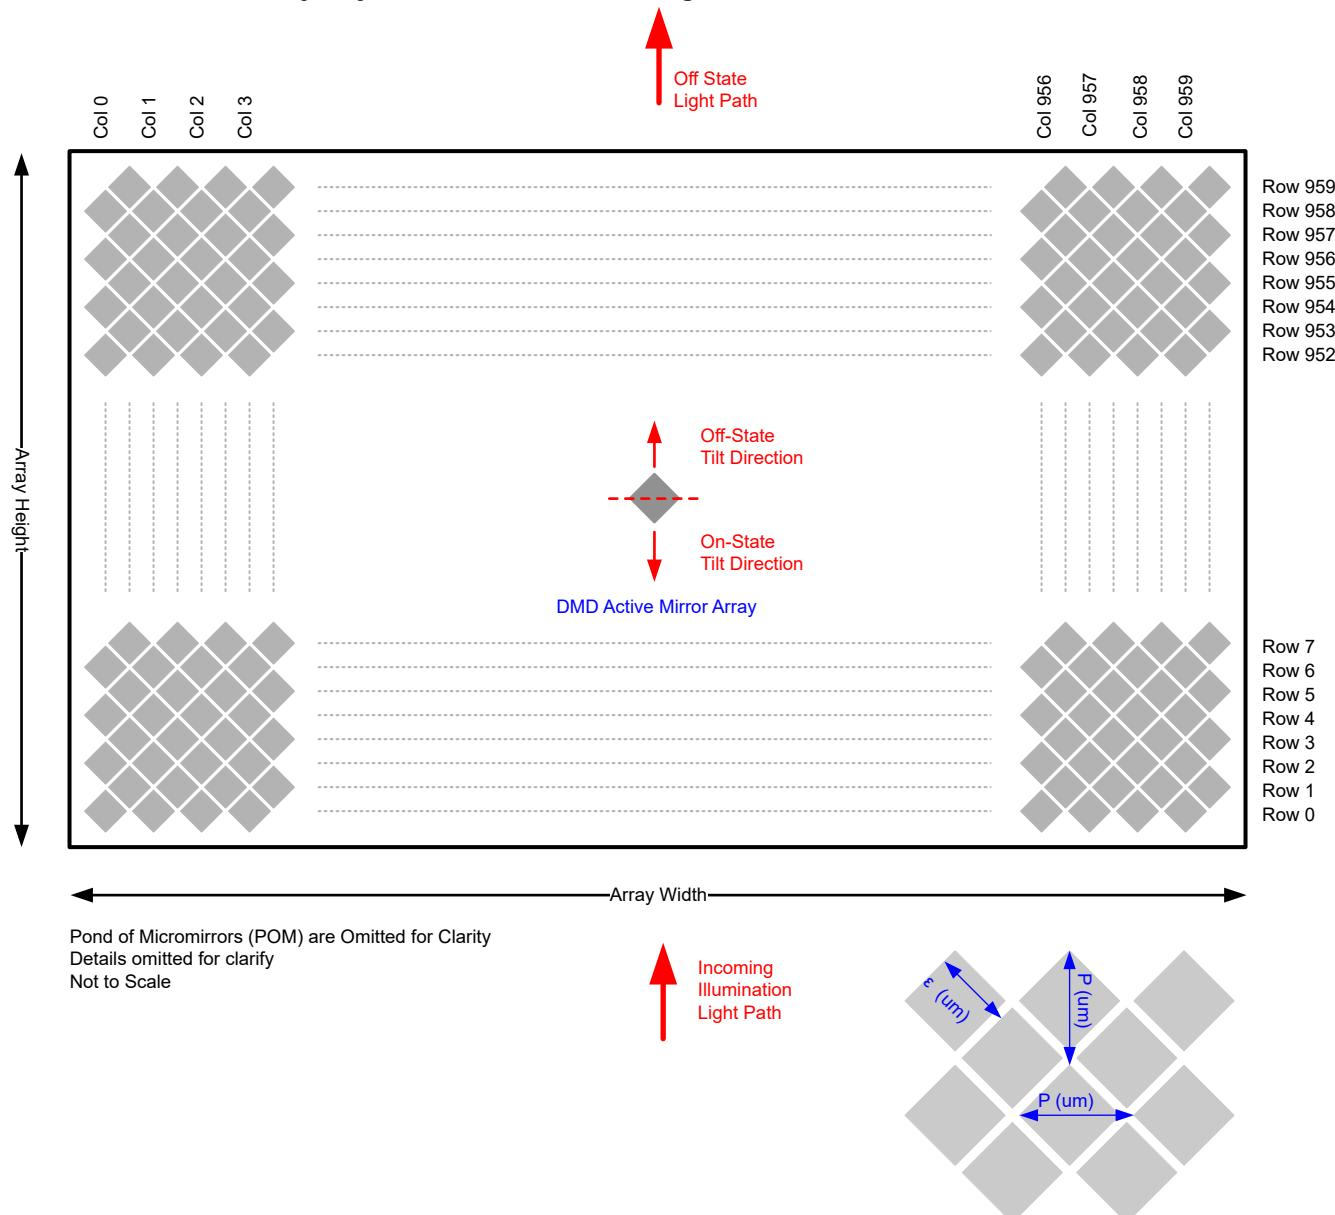

图 5-13. Micromirror Array Physical Characteristics
(1) See 图 5-13.
(2) The structure and qualities of the border around the active array includes a band of partially functional micromirrors called the POM. These micromirrors are structurally and/or electrically prevented from tilting toward the bright or ON state, but still require an electrical bias to tilt toward OFF.